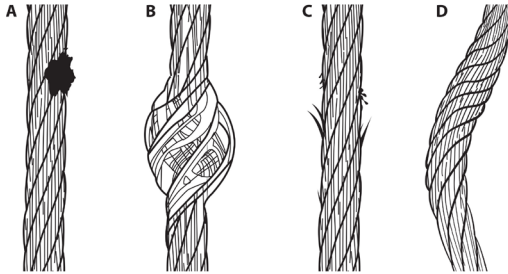

Figure 6: Inspection of Cable
Inspect the entire length of the constituent line up. Review the cable lifeline closely for broken strand wires, welding spatter burns, welding slag, bird caging, kinks and bent strands. Also examine for rust, dirt, paint, grease or oil. Check for damage caused by chemical corrosion or excessive heat as evident with discoloration. See Figure 6 for examples. If any of these conditions exist, remove the SRD from service.
Extract all of the cable and check the entire working length for damage caused by chemical corrosion or excessive heat as evident by discoloration (A), bird caging (B), broken wire strands (C), kinks and bent strands (D), see Figure 6. The cable should retract completely without faltering and should remain taut under tension without sagging.
Use Table 1: Guidelines for Cable SRD Inspection to inspect the SRD. See Figure 6 for examples of cable damage.